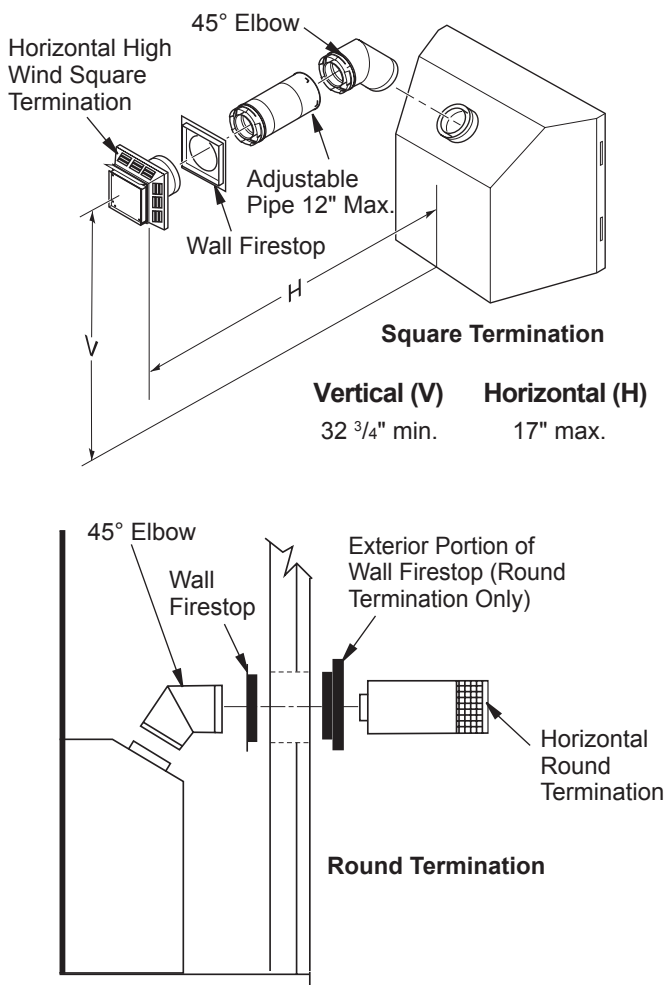

Figure 14 - Horizontal Termination Configuration for Square or Round Terminations
IMPORTANT: Horizontal square terminations require only inner portion of wall firestop. Horizontal installations using round termination require exterior portion of wall firestop (see Figure 14, page 10).
1. Set the fireplace in its desired location and determine the route your horizontal venting will take. Do not secure the fireplace until all venting has been installed. Some installations require sliding the fireplace in and out of position to make final venting connections. Figures 14 through 18 on pages 10 through 12 show different configurations for venting with horizontal termination that will help you decide which application best suits your installation. Check to see if wall studs or roof rafters are in the path of your desired venting route. If they are, you may want to adjust the location of the fireplace.
Figures 14 through 18 show different configurations and alternatives for venting with horizontal termination. Each figure includes a chart with critical minimum and maximum dimensions which **MUST** be met. **IMPORTANT:** Remember that a horizontal run of venting must have a 1/4" rise for every 12" of run toward the termination.